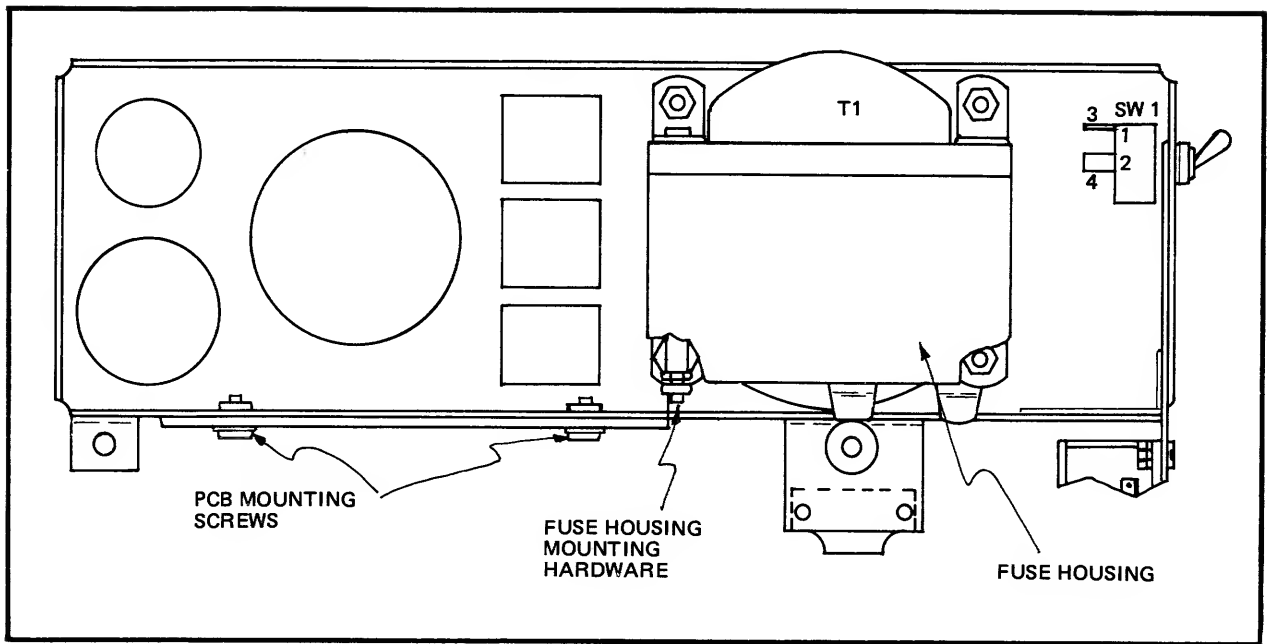

Figure 19. Hardware for Access to Transformer Tap Terminals
- c. Remove the two screws that hold the power supply PCBA to the power supply frame (figure 19).
- d. Move power supply PCBA to the left to expose screw that secures left-hand side of fuse housing (figure 19).